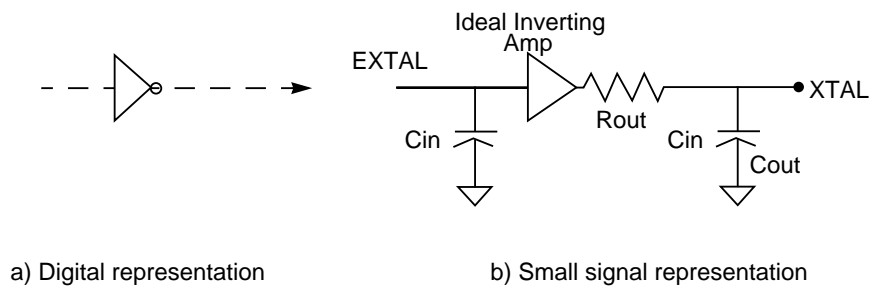
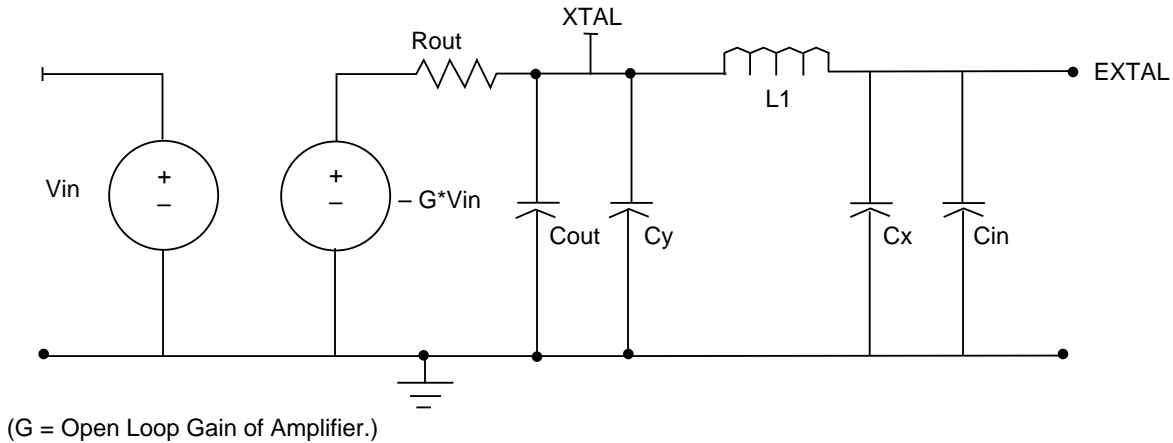

Figure 5 Model of CMOS Logic Gate
Figure 6 Small Signal Model of Inverting Amplifier and Crystal Circuit
The STOP pin of the NAND gate in **Figure 1** is asserted by the CPU to disable the oscillator for ultra low-power mode operation. In normal operation, the NAND gate acts as a small signal-inverting amplifier operating in a linear mode. For sake of digital analysis, the gate is modeled as shown in **Figure 5**. However, to fully understand the operation of the oscillator circuit, the small signal equivalent circuit model must be analyzed as shown in **Figure 6**.
- PCB contaminants reducing impedance between nodes such as humidity, flux, and finger prints are problems. When printed circuit boards are manufactured, a flux is applied to the board to promote good solder bonds. Normally, a wash cycle is used to remove the flux. If the board is not cleaned entirely, the residual flux may supply an unwanted impedance path on the board. Take special care to check between the crystal leads and beneath SMT devices. These are notorious locations for flux build-up. Humidity or actual condensation on the board can also supply unwanted impedance paths. Referring to **Figure 6** if R_{x2} is introduced due to contaminants, the input offset voltage will be pulled towards ground. This will effectively lower the amplifiers gain by limiting the input voltage swing.